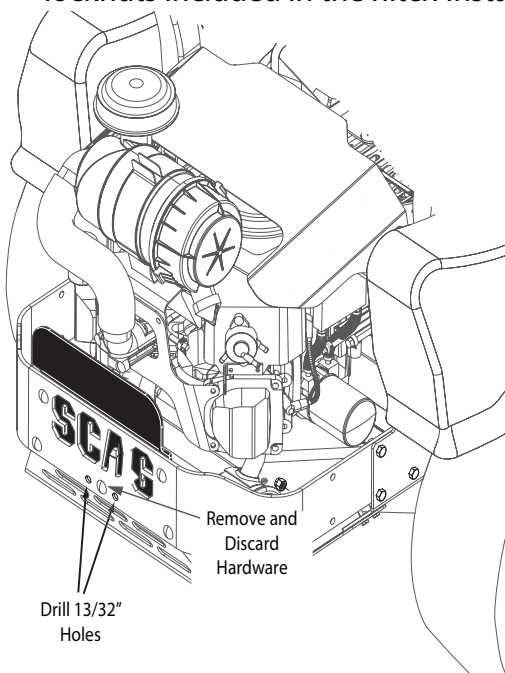

Figure 1.
2. Remove and discard the 3/8" - 16 x 1" carriage bolt and nut identified in Figure 1.